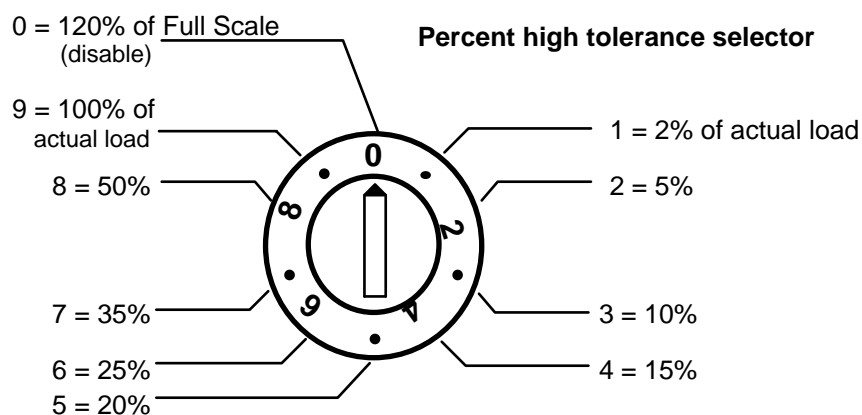

Figure 4-3. Percent high tolerance selector switch
3. Look at Figure 4-3 to become familiar with the selector settings. (This drawing is also shown on a label inside the AutoSet Plus door.) The selector dial has settings from 0 to 9. Each setting represents a percent. The first dot to the right of 0 is 1. 1 = 2%; 2 = 5%; 3 = 10%; 4 = 15%, and so on.